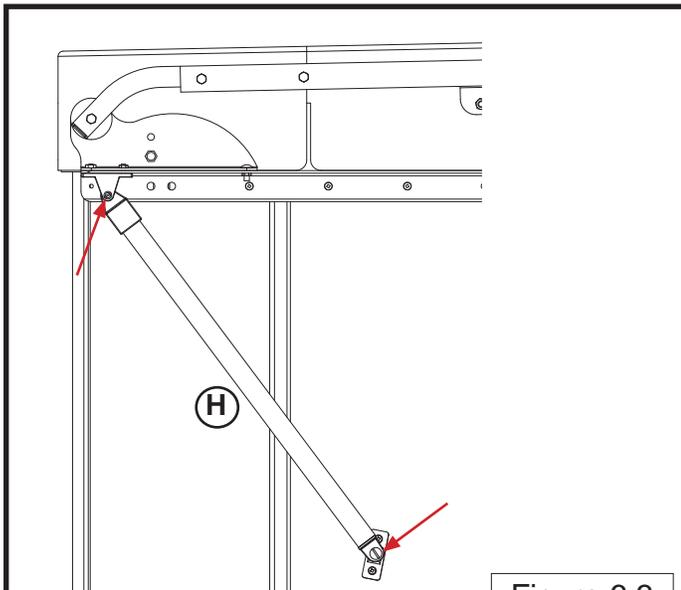

Figure 6.3
5. Tighten the screw that fastens the Support Tube (H) to the Deck Hinge and the screw that Fastens the Support Tube (H) to the Side Hinge Figure 6.3)